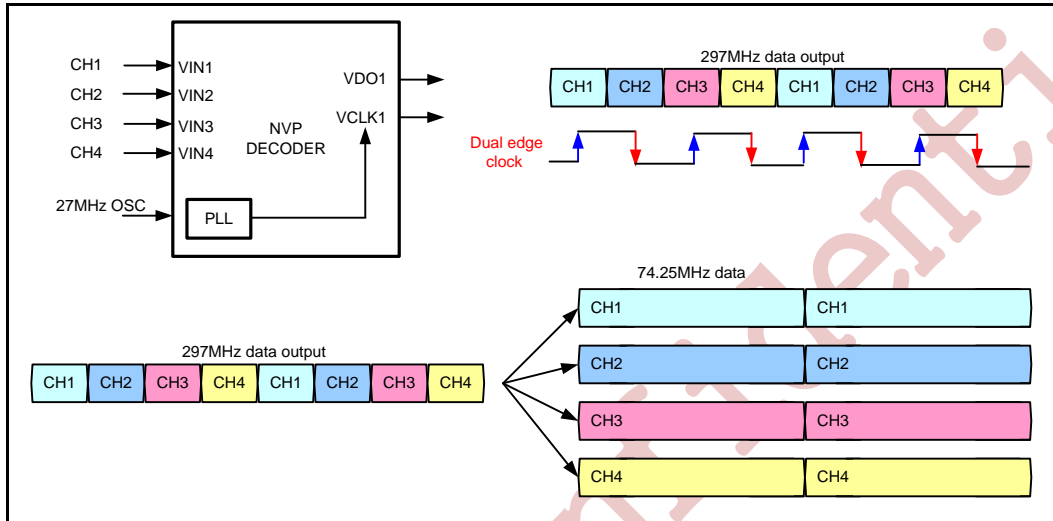

Figure 2.16 NVP6134 generate 297MHz(1Port 4-CH) data output
4. And then NVP6134 generate 297MHz(1Port 4CH) data output (Figure 2.16)